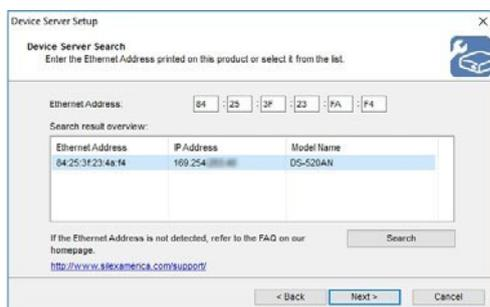

FIG. 20 – SELECTING THE DEVICE FROM THE LIST
- ! **Even if there is only 1 device listed, select this device from the list to properly mark it (□ Fig. 20– see above). Otherwise, the next configuration step may fail.**